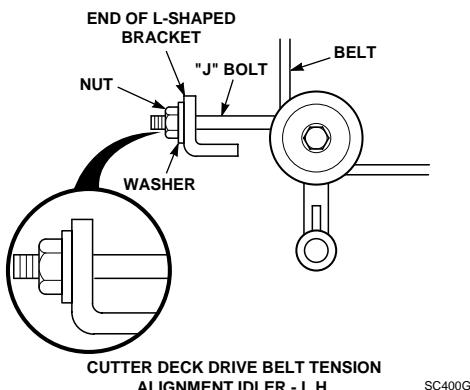

Figure 2. Deck Drive Belt Adjustment
2. Adjust the cutter deck drive belt using a belt tension gauge. Adjust the belt so that the belt moves 1/2" with 10 pounds of pressure. Adjust the tension by tightening or loosening the J-bolt nut. (See Figure 2)